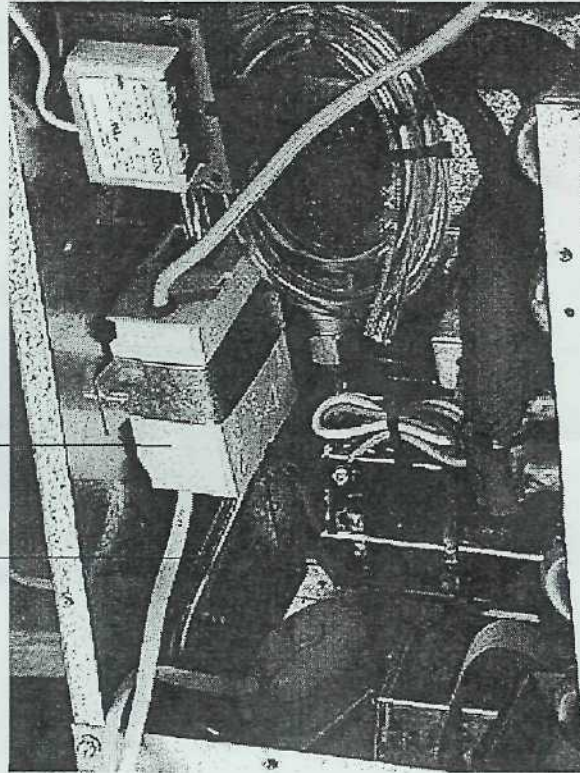

Fig. 12- Fasten Pump Mounting Strap To Unit With Screws From Panel.
14. Fasten the Pump Mounting Strap to the unit by using the 2 #8 screws from the outside face of the Panel. [FIG. 12]